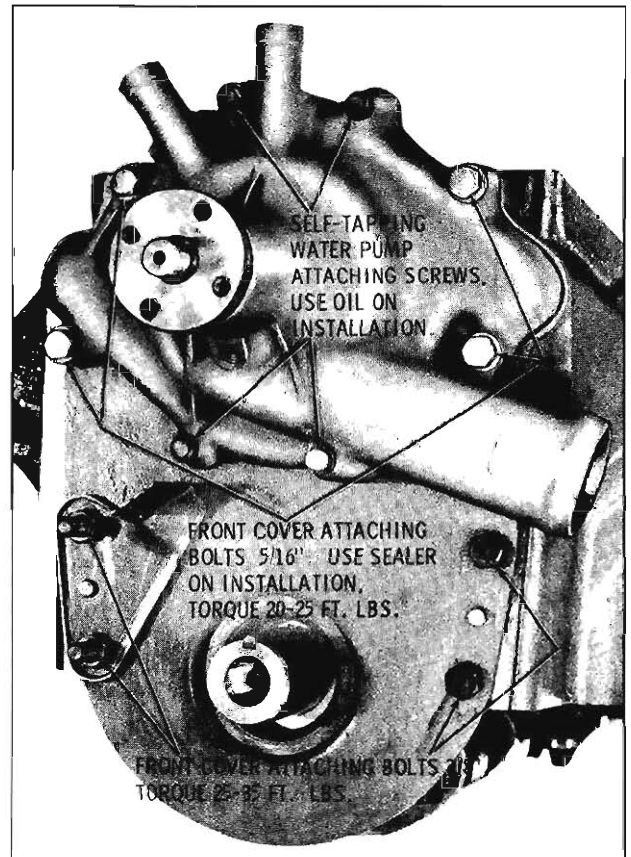

Fig. 3-439 Engine Front Cover Bolts
5. Remove cover to block attaching bolts and remove cover, timing pointer and water pump assembly. (Fig. 3-439)